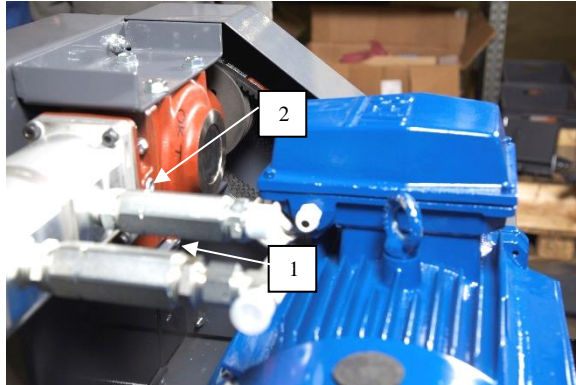

Figure 60 Angular gear
Open the plug in the bottom (Figure 60, pos 1) and remove the old oil.
Open the filling plug (Figure 60, pos 2).